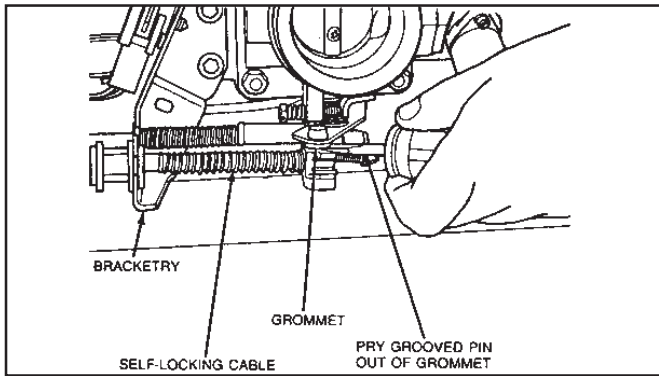

Figure 25
- 7.9 Remove gauge tool and pry grooved pin out of grommet on throttle lever. **(See Fig. 25.)**